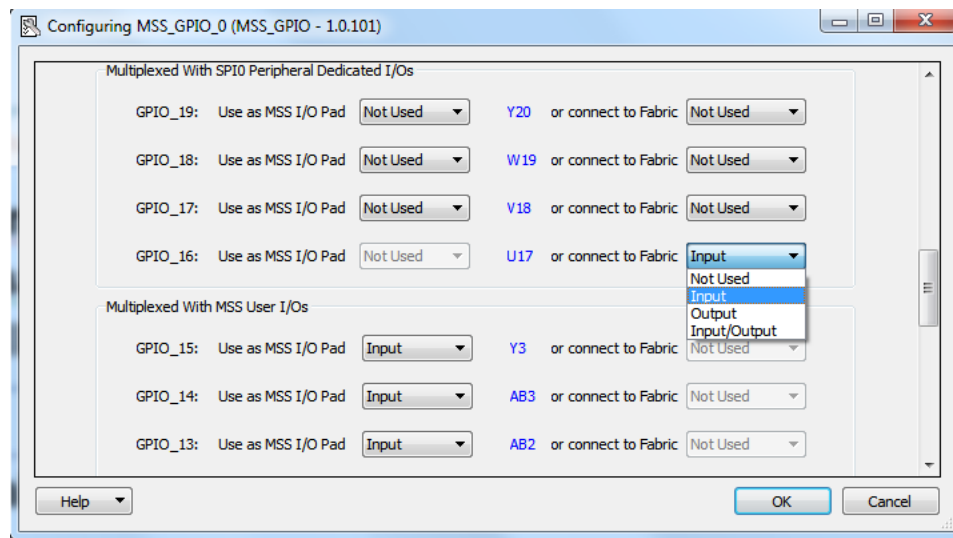

Figure 46 • Configuring MSS GPIO
1. Open the SmartDesign MSS configurator from Libero-Project Flow and double click GPIO block to configure and select Input for GPIO_16 for the **Power Good (PG) DPOL output signal** as shown in Figure 46.